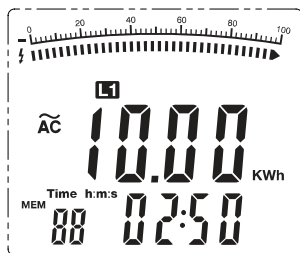

Figure 12
6. The measured kWh value is displayed in the main display and the elapsed time in the secondary display. (Fig. 12)